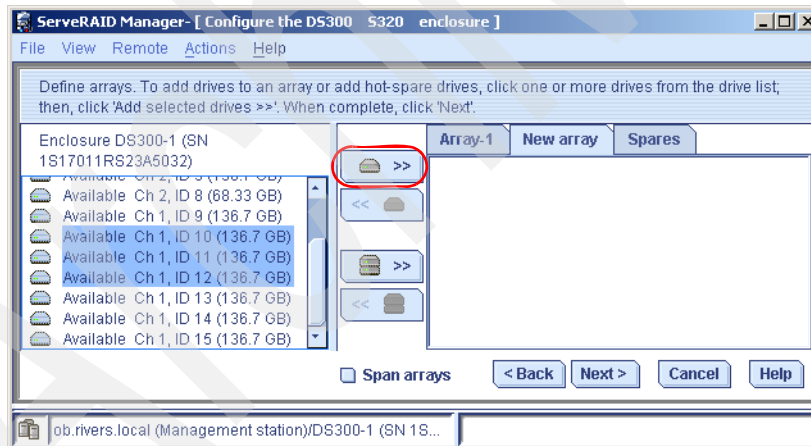

Figure 4-61 Selected drives for the new Array-2
- Click the newly created tab **New array**. Select drives with the ID 10, 11 and 12 and assign them to **New array**. This array will be used together with the array created in the next step to build a spanned array with a RAID level 50. Click the **Add selected drives to array** button. See Figure 4-61.